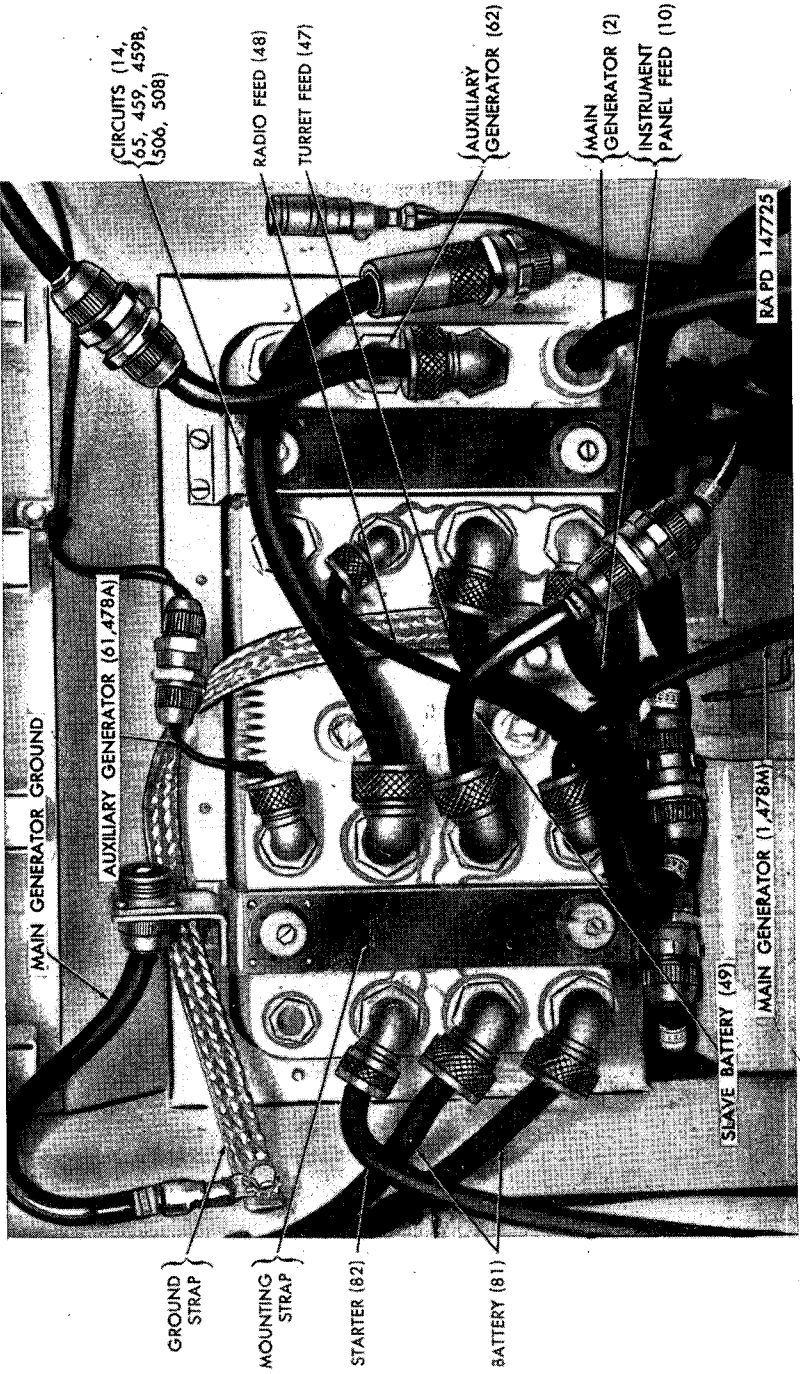

Figure 182. Identification of cables entering rear of master junction box.
b. **MASTER JUNCTION BOX** (figs. 146 and 184). The master junction box provides for the control, regulation, and distribution of the outputs of the main and auxiliary generators. It is mounted on the bulkhead between the two air cleaners (fig. 146). The components in this box are made accessible by removing the box cover from within the fighting compartment (par. 194). All electrical cables connecting into the box are run through the rear of the box which is accessible from the engine compartment (fig. 182). Procedures for removal and installation of the master junction box are given in paragraph 194.